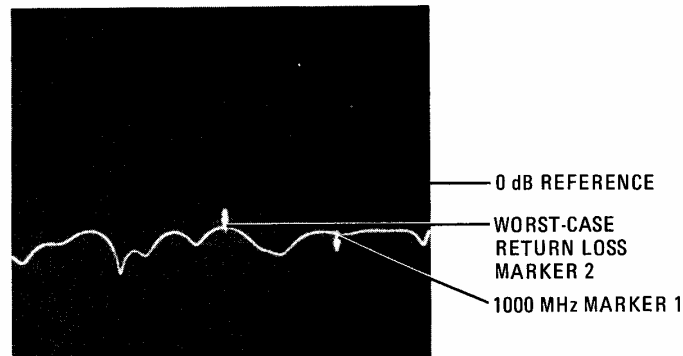

Figure 4-13. Port Return Loss (100 - 1000 MHz)
- (1) Move 8505A Frequency Control MARKER 2 control to worst-case Return Loss between 100 and 1000 MHz as indicated on CRT (the point closest to calibration line to left of MARKER 1 as shown in Figure 4-13).
- (2) Read worst-case Return Loss from 8505A Signal Processor Channel 1 digital display. The indication should be  $\geq 23$  dB below the zero dB reference level for the frequency range 100 to 1000 MHz.